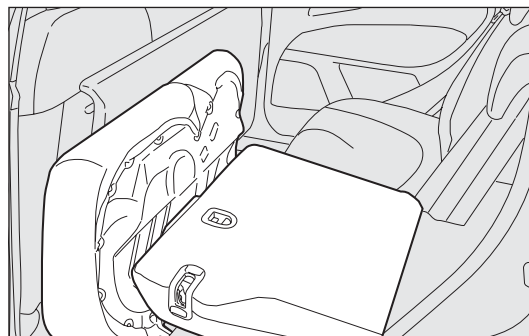

fig. 94
- ☐ tilt the cushions forward as shown by the arrow fig. 94;